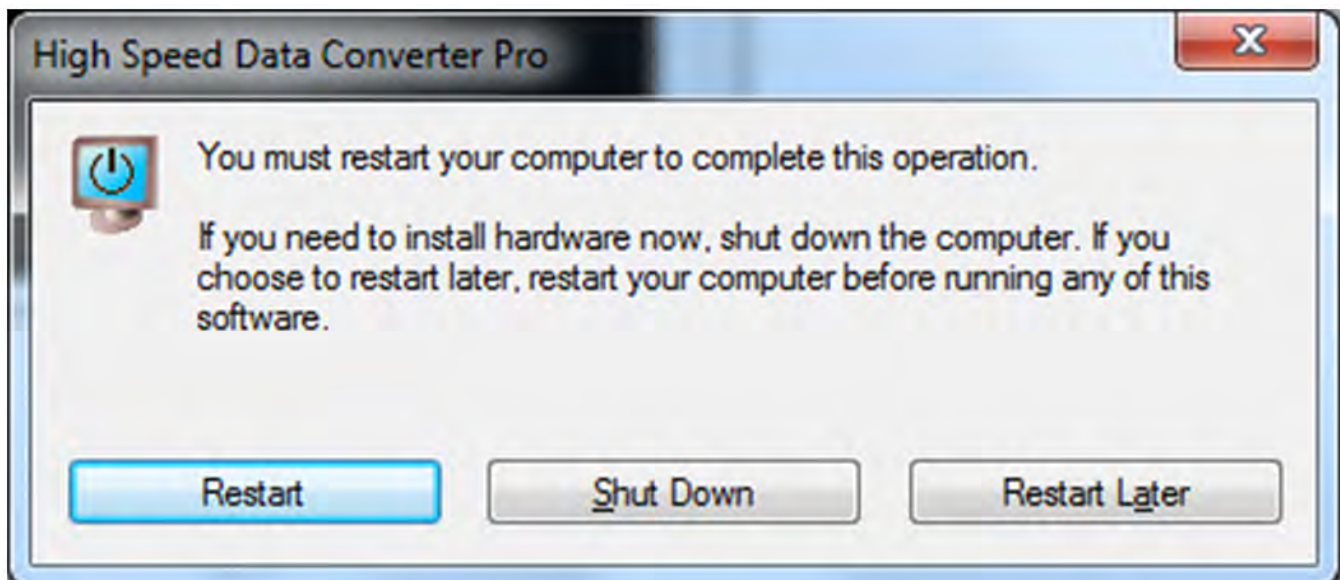

Figure 39. HSDCPro Install
- As shown in Figure 39 a restart might be requested depending on whether or not the PC already had the National Instruments MCR Installer. If requested, hit the *Restart* button to complete the installation.